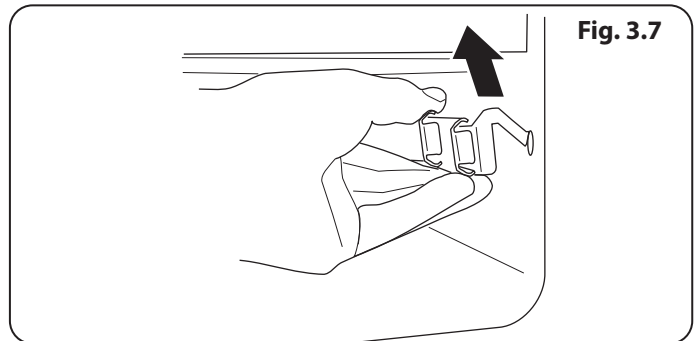

Fig. 3.7
3. If you need to remove the telescopic runners to allow cleaning of the broiler chamber, first remove the broiler tray then you can unhook them from the broiler chamber sides (**Fig. 3.7**).